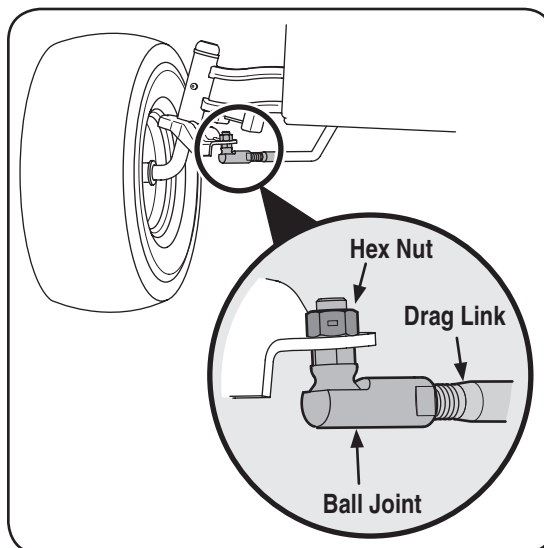

Figure 5-4
1. Remove hex nut on the top of ball joint. See Fig. 5-4.